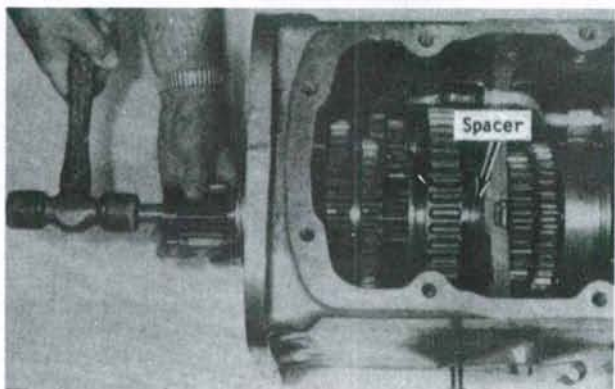

Fig. 150—Insert a spacer between mainshaft front bearing and transmission housing wall, then tap mainshaft into housing.
When reinstalling, be sure that cluster gear (12) is positioned with smaller gear facing forward and that first-reverse gear (13) is positioned with shift fork groove towards the rear. Insert a spacer between front bearing and wall of transmission case (Fig. 150), then tap rear of mainshaft with a soft hammer until bearing is seated against shoulder of shaft. Com-